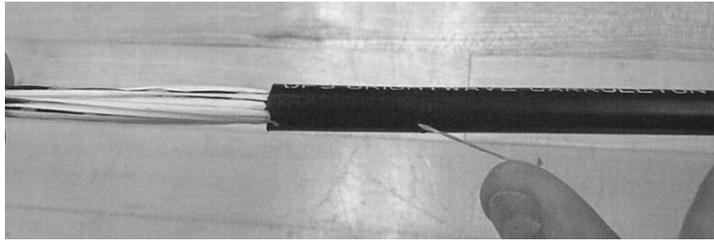

Figure 6 - Pull the ripcord to the next ring cut.
4.7 Locate and pull the ripcord to the next ring cut (Figure 6). Sometimes a small starter slit is needed to start the ripcord. If desired, wrap the ripcord around a pair of pliers to grip the ripcord.